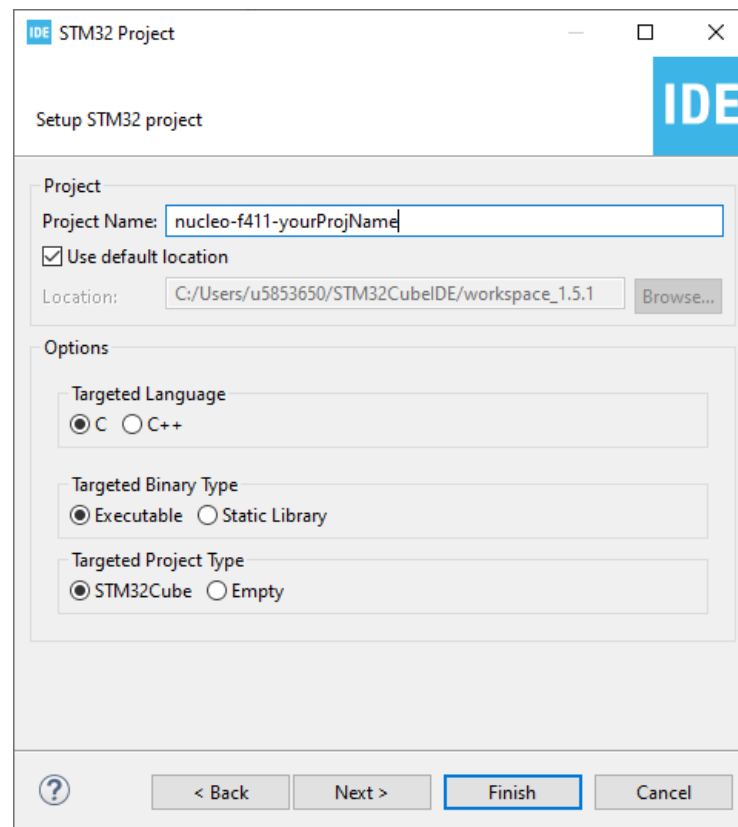

Figure 6: Creating a project
4. A window should pop up to let you create a STM32 project. As shown in Figure 6, Give your project an identifiable **name**, select a **location** you prefer to save your project, and choose either C or C++ for the Targeted Language (the instruction is given in **C**), leave the following settings as default, and click on **Finish**.